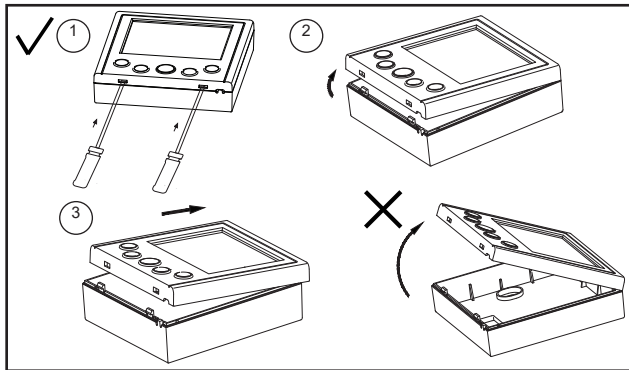

Figure 1. Remove Controller from Back Cover
1. Remove the back cover by inserting a flat head screw driver into the slots until the clips release then lifting up the bottom of the controller and sliding it toward the top of the back cover. See Figure 1. Do not lift the bottom of the controller straight up as that will damage the clips. See Figure 1.